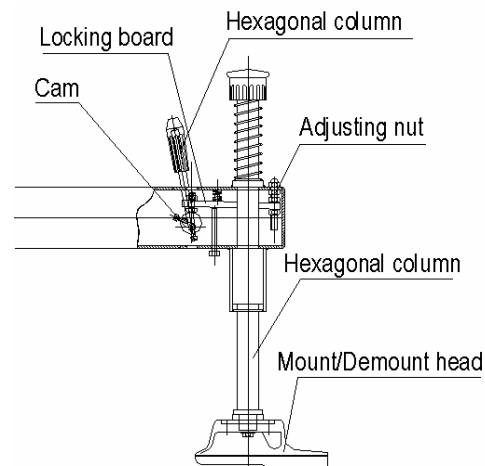

Fig.31
- The Hexagonal column (Fig.31) can move up and down freely while the hexagonal column locking handle downwards. While the hexagonal column locking handle rolled 120° or so, the cam connected with the handle will lift the locking board to lock the Hexagonal column. If it can't realize, you can adjust the bolt's position to arrive at it.